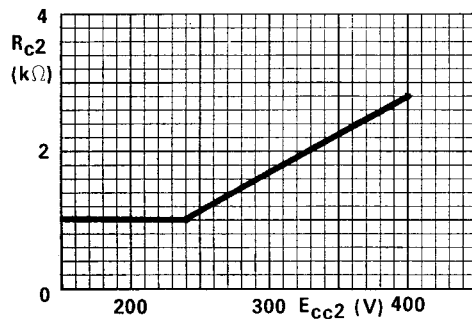

Figure 1
- ▲ To prevent an excessive value of Pc2 the minimum Rc2 values are given in Figure 1.
Note:  $R_{c2}$  minimum for 400 V screen grid supply is 2.9 k $\Omega$  (see Figure 1).
Note:  $R_{c2}$  minimum for 350 V screen grid supply is 2.2 k $\Omega$  (see Figure 1)
Note:  $R_{c2}$  minimum for 280 V screen grid supply is 1.4k $\Omega$ (see Figure 1)